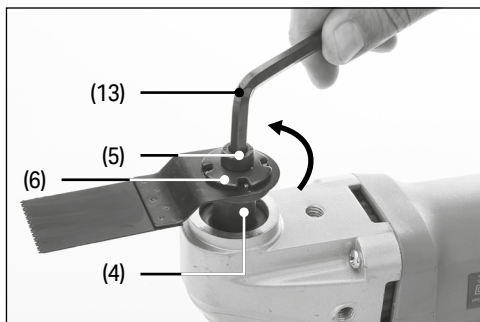
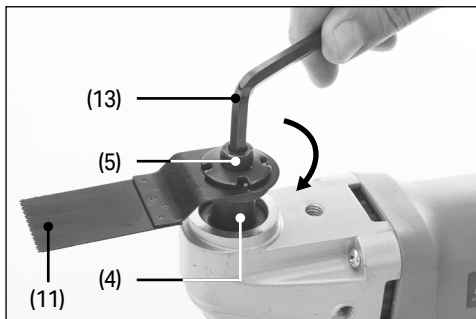

Fig. 1
Fig. 4
6.1 Fitting the Saw Blade or Scraper Blade Accessory – Fig.1 to Fig.4